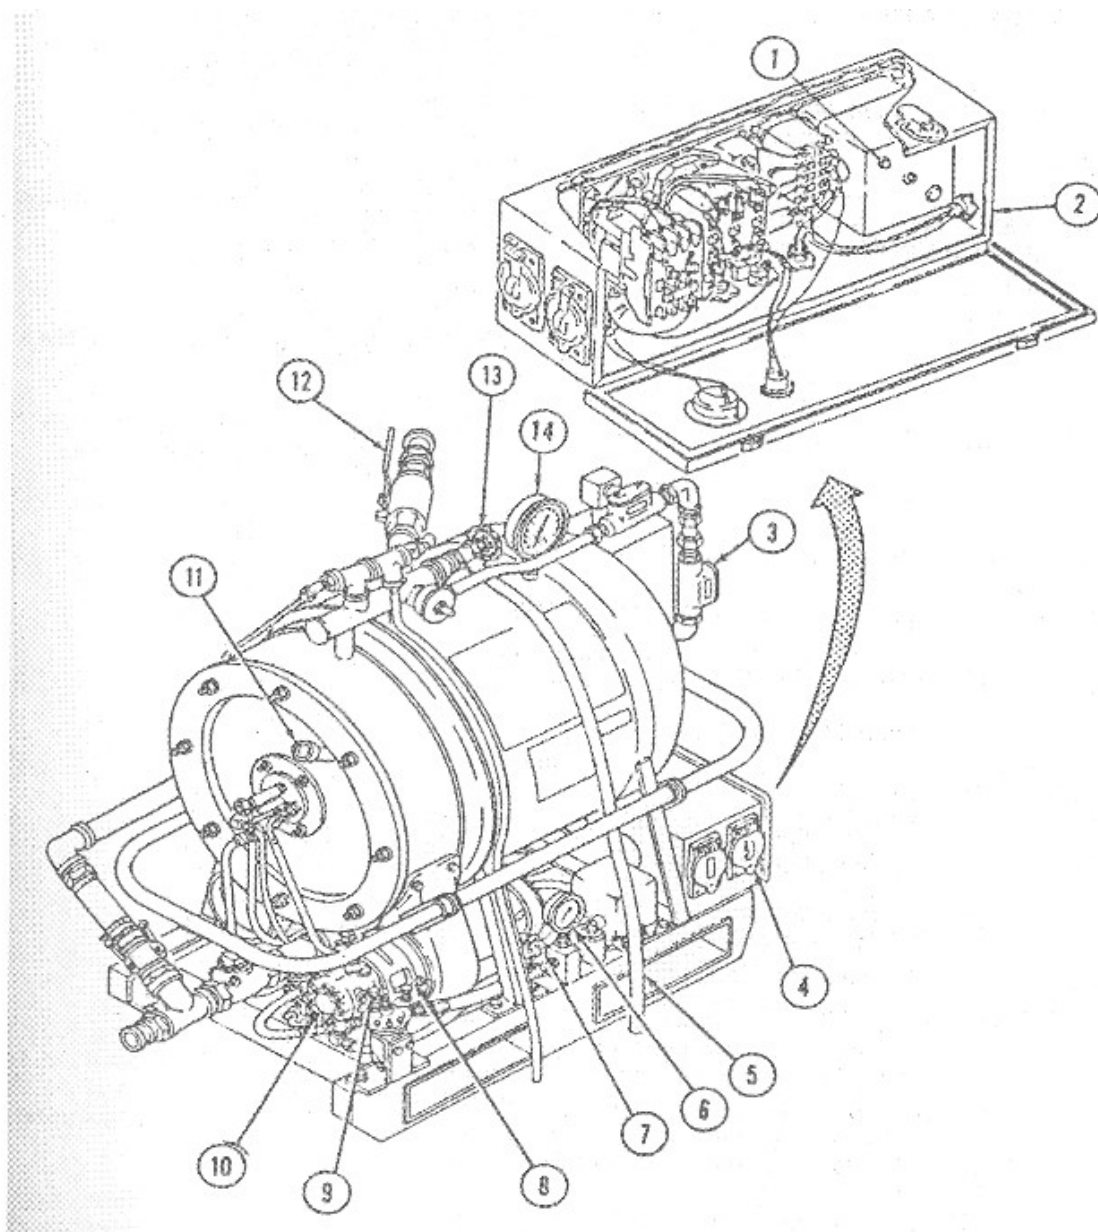

Figure 3-26
15. Inspect water heater (See Figure 3-26).